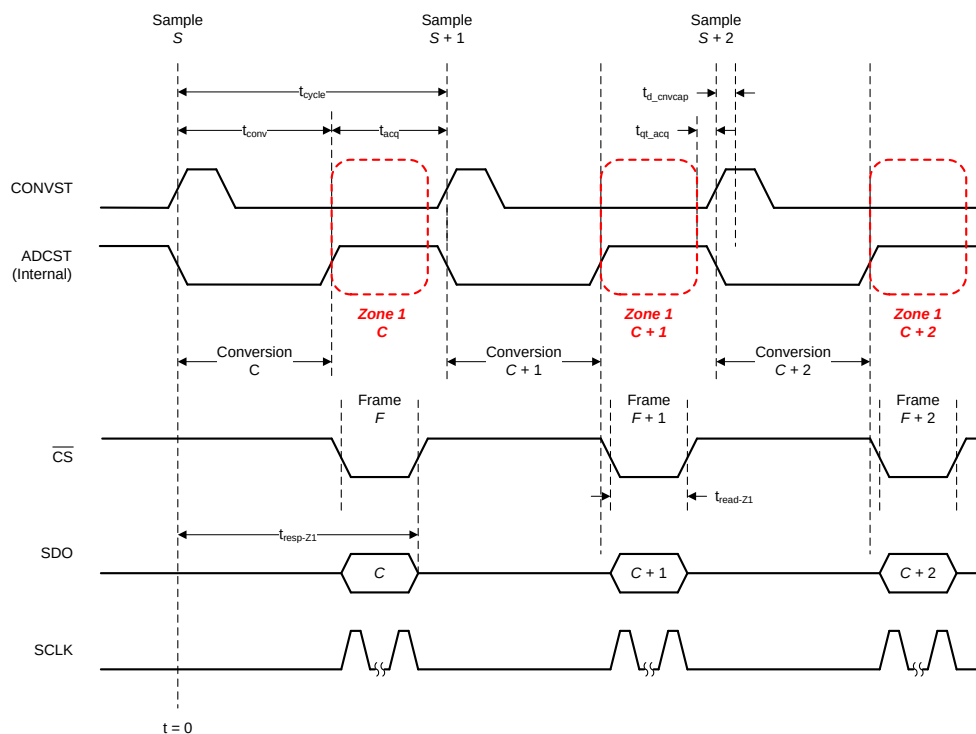
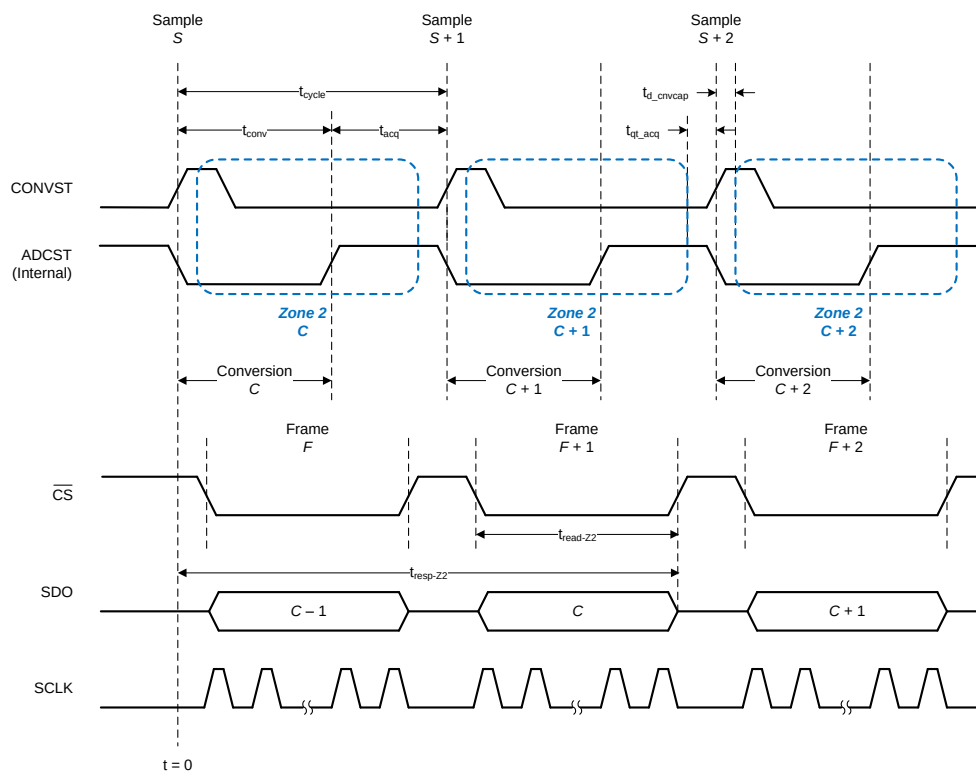

**Figure 45. Zone 1 Data Transfer**
**Figure 46. Zone 2 Data Transfer**
Figure 45 and Figure 46 illustrate interleaving of three conversion cycles ( $C$ ,  $C + 1$ , and  $C + 2$ ) with three data transfer frames ( $F$ ,  $F + 1$ , and  $F + 2$ ) in zone 1 and in zone 2, respectively.
- Extended data transfer window, as shown in Figure 46.